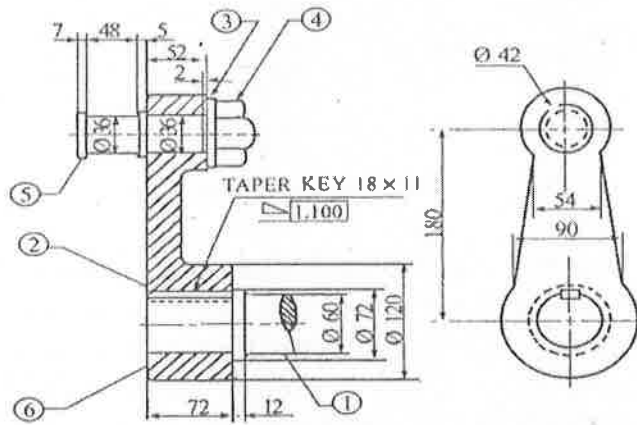
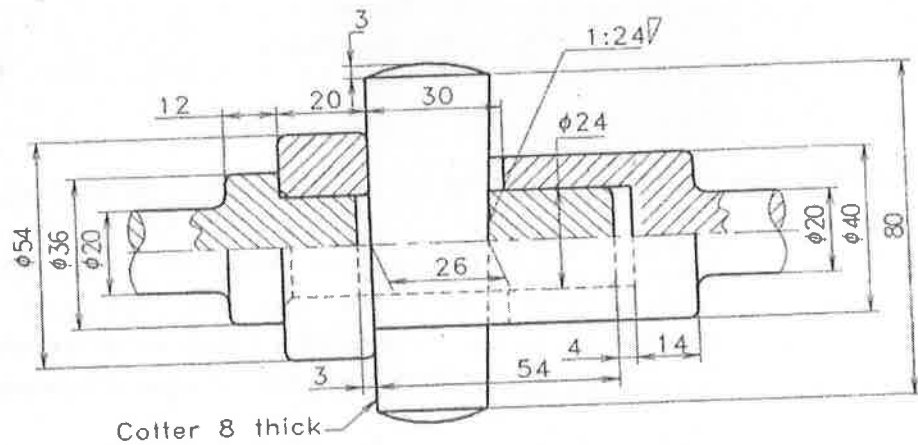

Fig.3
Fig.4
1. An assembly drawing of Overhung crank is Shown in Fig.3. Prepare a shop floor drawing for the parts for the production, incorporating the following information
- (g) Prepare item list also (50)
2. Fig.4 shows assembly of a socket and spigot joint. Prepare a production drawing of the parts as per BIS by incorporating the following information